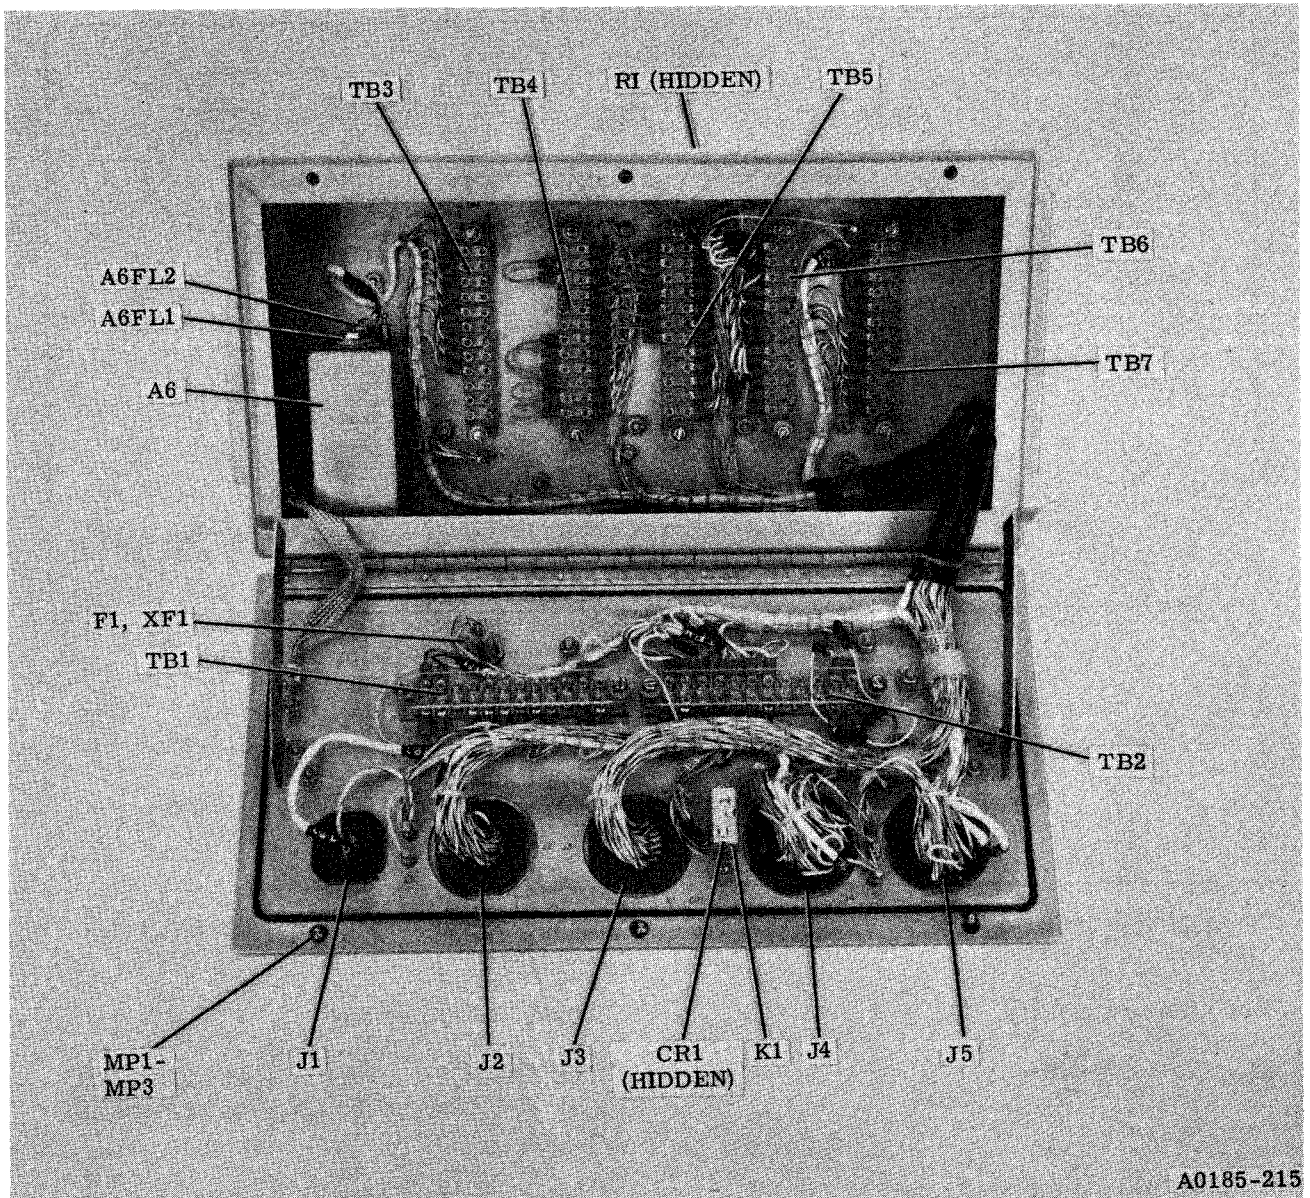

Figure 1-9. Interconnection Box J-1265/U, Top View, Front Panel Open
(1) FUNCTION. - The function of the J-1265/U is to interconnect the major units of the AN/URT-24 and the ancillary equipments of the system. The J-1265/U also preprograms the CU-937/UR for either the 15-, 25-, or 35- foot whip antenna (35-foot whip antenna is preferred).
(2) PHYSICAL CHARACTERISTICS. - The J-1265/U is a box structure with the necessary connectors for system interconnections mounted on the front panel (figures 1-9 and 1-10). Interconnections are made by running cables through five stuffing tubes and joining appropriate circuits at terminal boards. The front panel is hinged for easy access. A mounting plate is provided for the J-1265/U and it can be bolted into place for installation.
(3) ELECTRICAL CHARACTERISTICS. - The J-1265/U contains no active electronic circuits, but it furnishes the physical interconnection components for the system. The J-1265/U also serves to program the CU-937/UR. This is accomplished by jumpering various terminals on